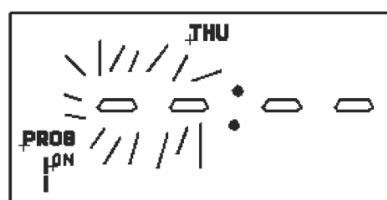

Figure B-11: Duplicating program
2. Press 'TIME' button twice to copy the data of the selected day to current day. Or press 'TIME' button for 2 seconds to copy the data of the selected day to the following days. When the ON/OFF times for WED are set, the display will show 'THU'. Refer to Figure B-11.